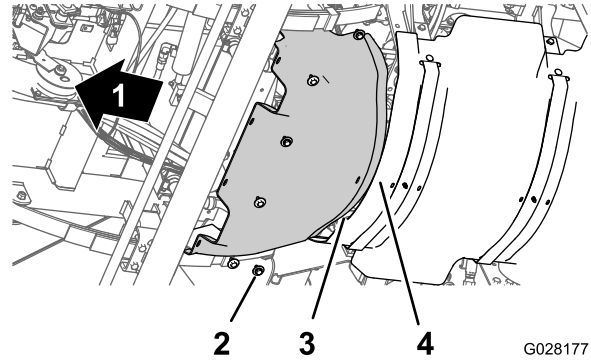

Figure 62
1. Align the rear flange of the forward heat shield over the forward flange of the rear heat shield (Figure 62).
2. Align the holes in the forward heat shield with the threaded holes in the chassis (Figure 62).
3. Assemble the forward heat shield to the machine with the 6 hex-head bolts and 6 washers (Figure 62) that you removed in step 3 of Removing the Forward Heat Shield \(page 50\).